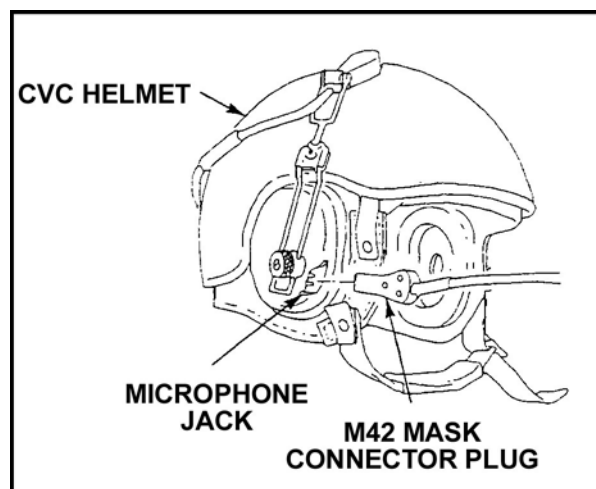

Figure 2. M42 connector.
- (1) Put microphone plug from the protective mask into the plug hole on the CVC helmet (Figure 2).